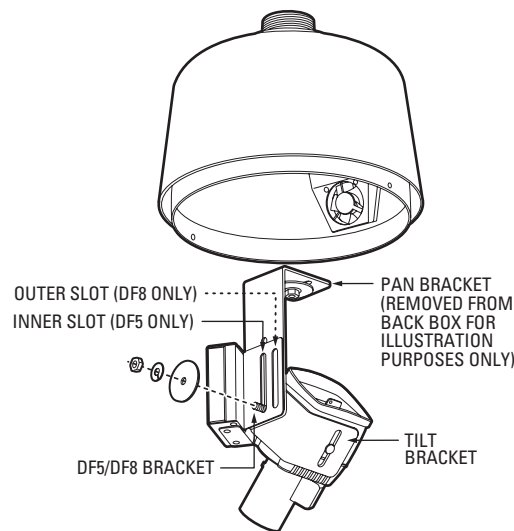

Figure 19. Mounting FTV10M Transmitter into DF5/DF8 Pendant Dome
8. Mount the transmitter into the back box as follows (refer to Figure 19):
NOTE: In Figure 19, the pan bracket is removed from the back box for illustration purposes only. You do not need to remove the pan bracket from the back box.